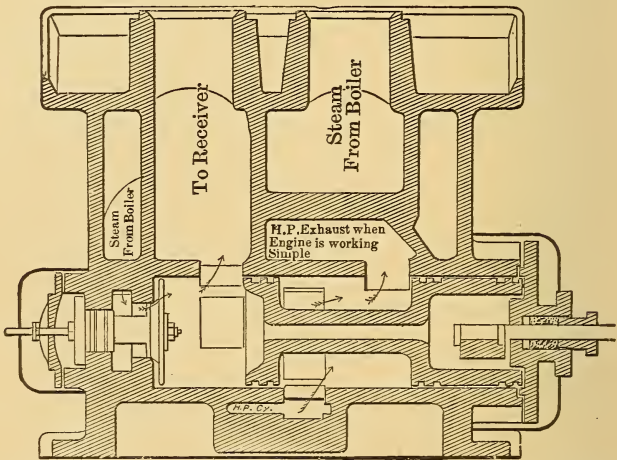
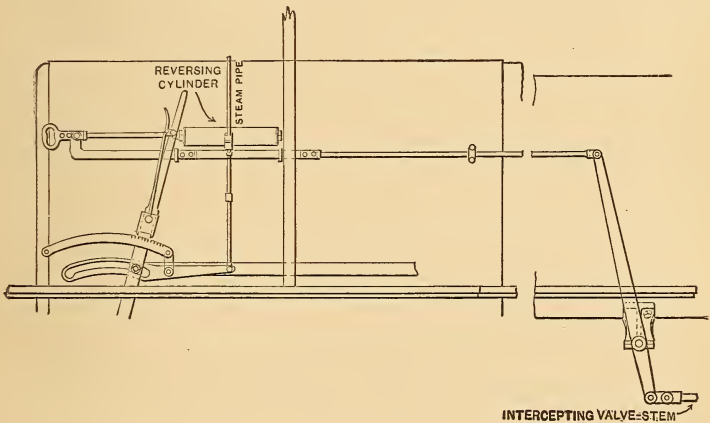

Fig. 216. Pittsburg (Colvin-Wightman) Compound, Working Single-Expansion.
Fig. 218. Reversing-device, Pittsburg (Colvin-Wightman) Compound.
A. Referring to figures 216 and 217, the essential features are
A. Through an independent exhaust-passage and nozzle, as in figure 216.
A. As shown in figure 218 there is an air or steam reversing-cylinder actuated by the reversing lever as follows : when the lever is down, or at full stroke, at either end, the intercepting-valve is in the position indicated by figure 216, permitting admission of live steam to the receiver ; but the moving of the reverse-lever one or more notches opens a valve